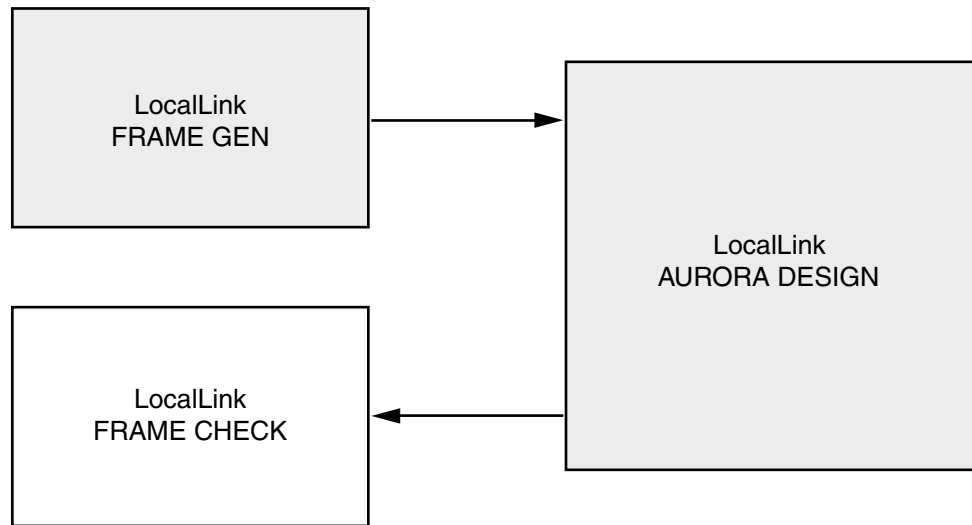
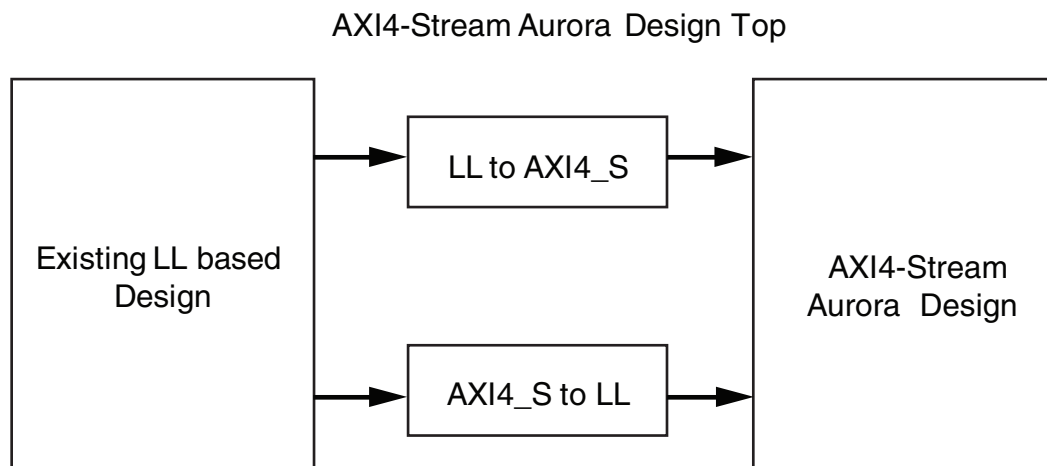

Figure B-1: Legacy Aurora Example Design
Figure B-2: AXI4-Stream Aurora Example Design
Figure B-1 shows an example Aurora design using the legacy LocalLink interface. Figure B-2 shows an example Aurora design using the AXI4-Stream interface.
2. See Figure B-2, page 120 for the emulation of an LL Aurora core from an AXI4-Stream Aurora core.
5. Connect the shim and AXI4-Stream Aurora design as shown in Figure B-2, page 120.